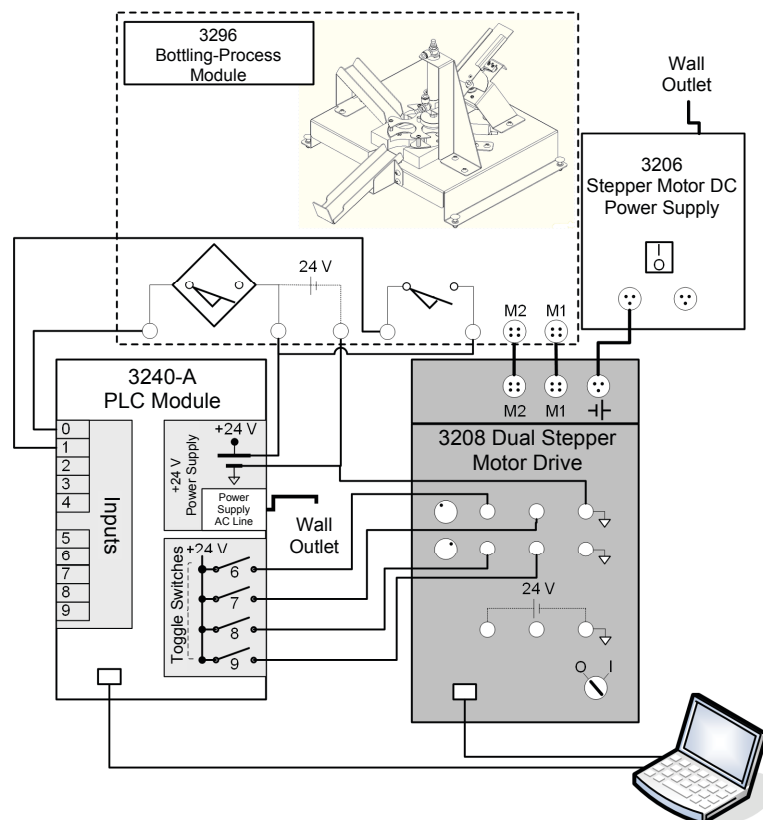

Figure 15. Station control valve test circuit.
1. Connect the Bottling-Process Training System according to Figure 15. All toggle switches must be turned off (down position). No bottle or cap must be present in the system at this time.